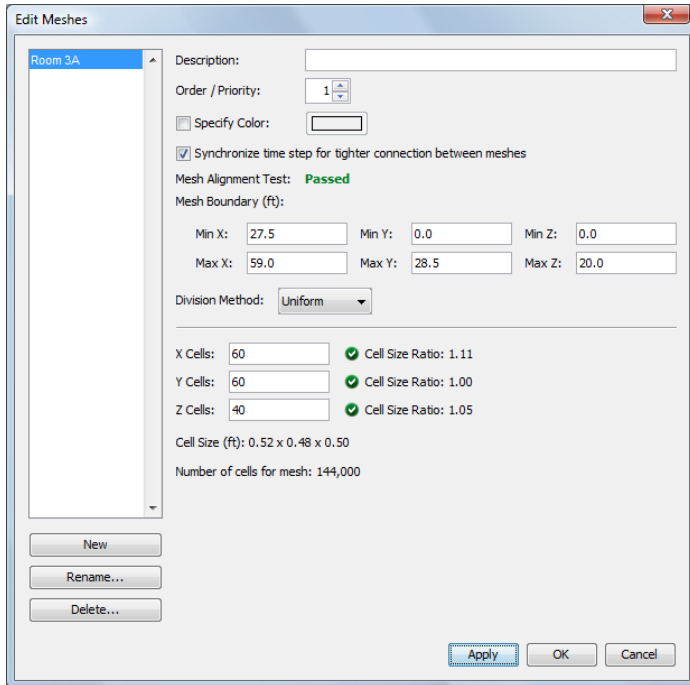

Figure 6.3. Input to create the mesh
6. In the **X, Y, and Z** cell boxes, enter 60, enter 60, and enter 40 respectively, as shown in Figure 6.3. The FDS solution is optimized when the mesh cell division is defined by a number that can be formed using multiples of powers of 2, 3 and 5. These divisions give a cell size of approximately 0.5 ft (0.1524 m).